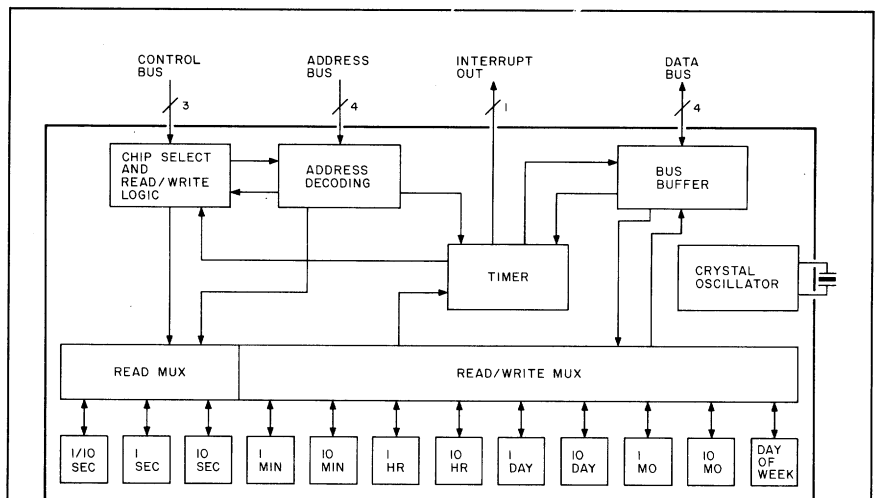

Figure 1. The 58174 real-time clock block diagram.
The MM58174 I use in this project is a relatively inexpensive device that allows precise time-keeping with minimal power requirements (see Fig. 1 for a block diagram). The CMOS technology behind the 58174 results in its low power requirements—typically 1 milli-ampere (mA) when active—and permits it to have a low-power standby mode, requiring only 10 microamps ( $\mu$ A). This small current draw lets you back up the date and time by a single 3-volt (V) lithium battery (with 1,200